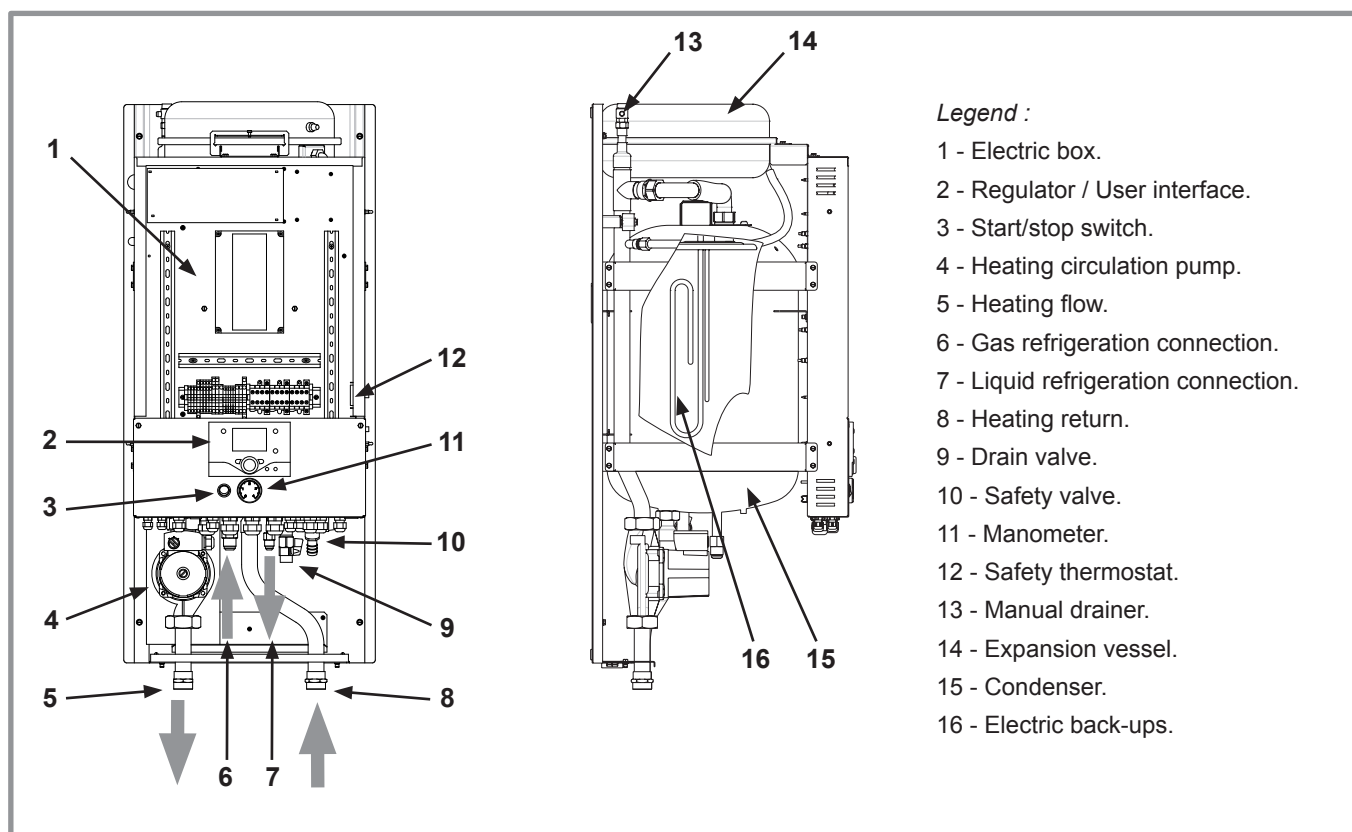

figure 8 - Hydraulic unit components
- In the condenser (rep. **15**, figure 8, page 10) :